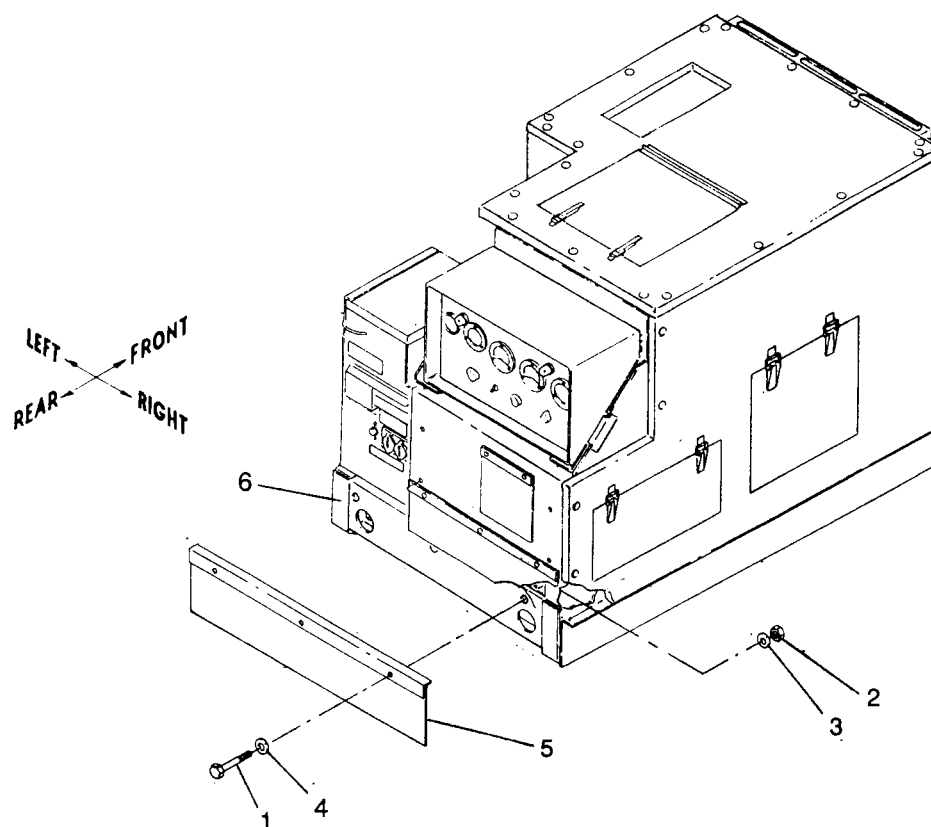

Figure 5-12. Rear Flap Assembly, Removal and Installation
a. Removal. See figure 5-12. Remove rear flap assembly from skid as follows:
(1) Remove three screws (1) and locknuts (2), and six washers (3 and 4) securing rear flap assembly (5) to skid (6).
(2) Remove rear flap assembly (5).
b. Installation. See figure 5-12. Install rear flap assembly to skid as follows:
(1) Position rear flap assembly (5) on skid (6) and install three screws (1) and locknuts (2), and six washers (3 and 4).
(2) Torque screws (1) to 16 \pm 2 ft-lbs dry.